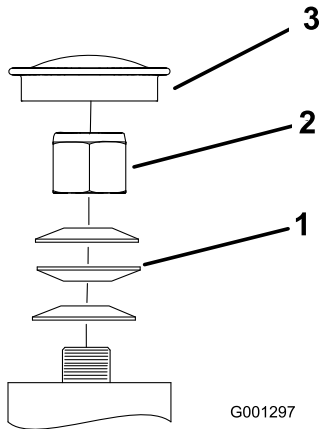

Figure 58
- Remove the dust cap from caster and tighten lock nut (Figure 58).
- Tighten the locknut until the spring washers are flat and then back off a 1/4 turn to properly set the pre-load on the bearings (Figure 58).
Important: Make sure the spring washers are installed correctly as shown in Figure 58.
- Install the dust cap (Figure 58).